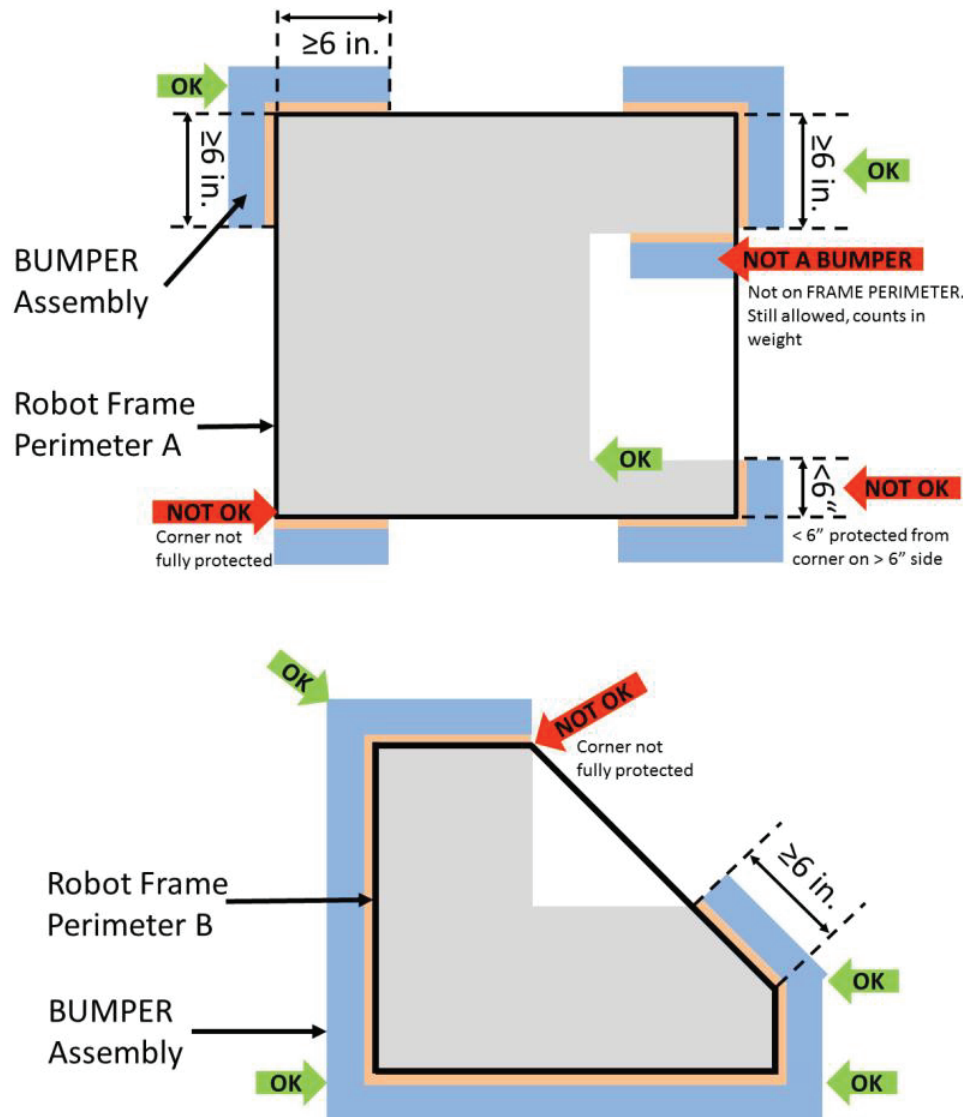

Figure 10-2 BUMPER corner examples
**R24.** ROBOTS are required to use BUMPERS to protect all outside corners of the FRAME PERIMETER. For adequate protection, at least 6 in. (~16 cm) of BUMPER must be placed on each side of each outside corner (see Figure 10-2 BUMPER corner examples) and must extend to within ¼ in. (~6
The dimension defined in R24 is measured along the FRAME PERIMETER. The portion of the BUMPER that extends beyond the corner of the FRAME PERIMETER is not included in the 6 in. (~16 cm) requirement. See Figure 10-2.